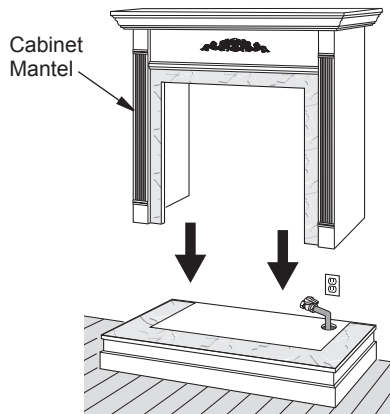

Figure 14 - Installing Cabinet Mantel
2. If using an optional GA3750A blower, install a properly grounded, 120 volt three-prong electrical outlet at firebox location if an outlet is not there. If possible, locate outlet so cabinet mantel will cover it when installed (see Figure 14).
6. Center cabinet mantel on hearth base (see Figure 14). Make sure mantel is flush against wall.